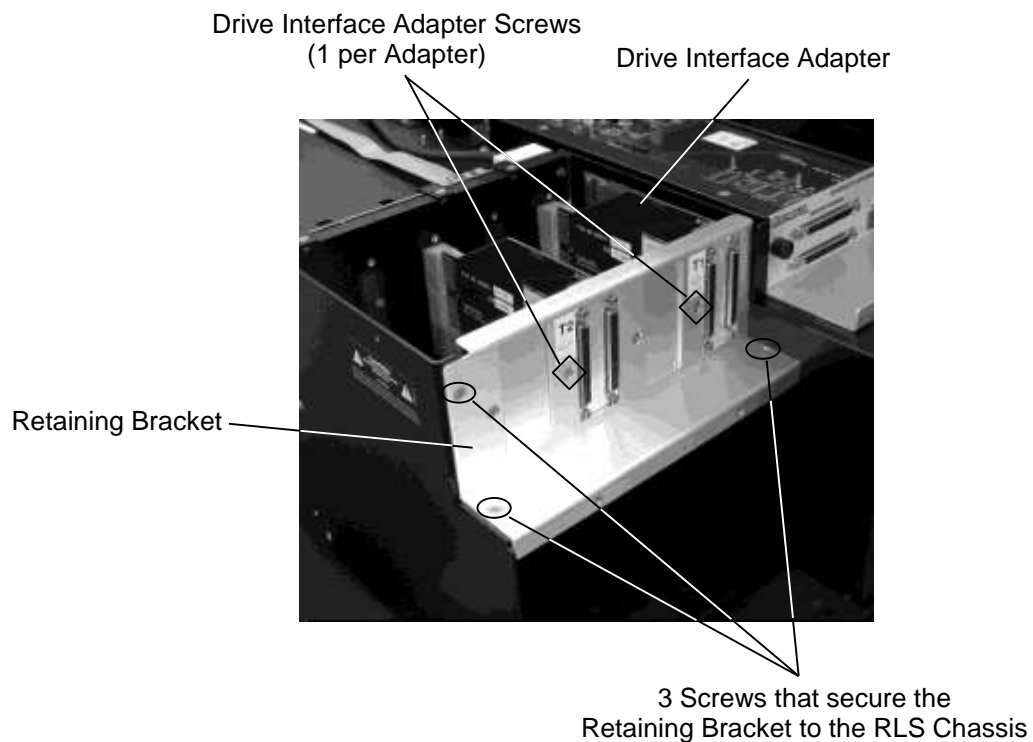

Figure 7-40 Drive Interface Adapters shown at the rear of the RLS
5. Using a No. 2 Phillips screwdriver, remove the drive interface adapter screw located to the left of the SCSI connectors for each adapter that is installed. See Figure 7-40.
6. Using a No. 2 Phillips screwdriver, remove the three screws that secure the retaining bracket to the library's chassis. See Figure 7-40.
4. Using a No. 2 Phillips screwdriver, replace the three flat-head screws that secure the retaining bracket to the library. See Figure 7-40.
6. Using a No. 2 Phillips screwdriver, replace each of the Drive Interface Adapter flat-head screws that secure the DIAs to the retaining bracket. See Figure 7-40.